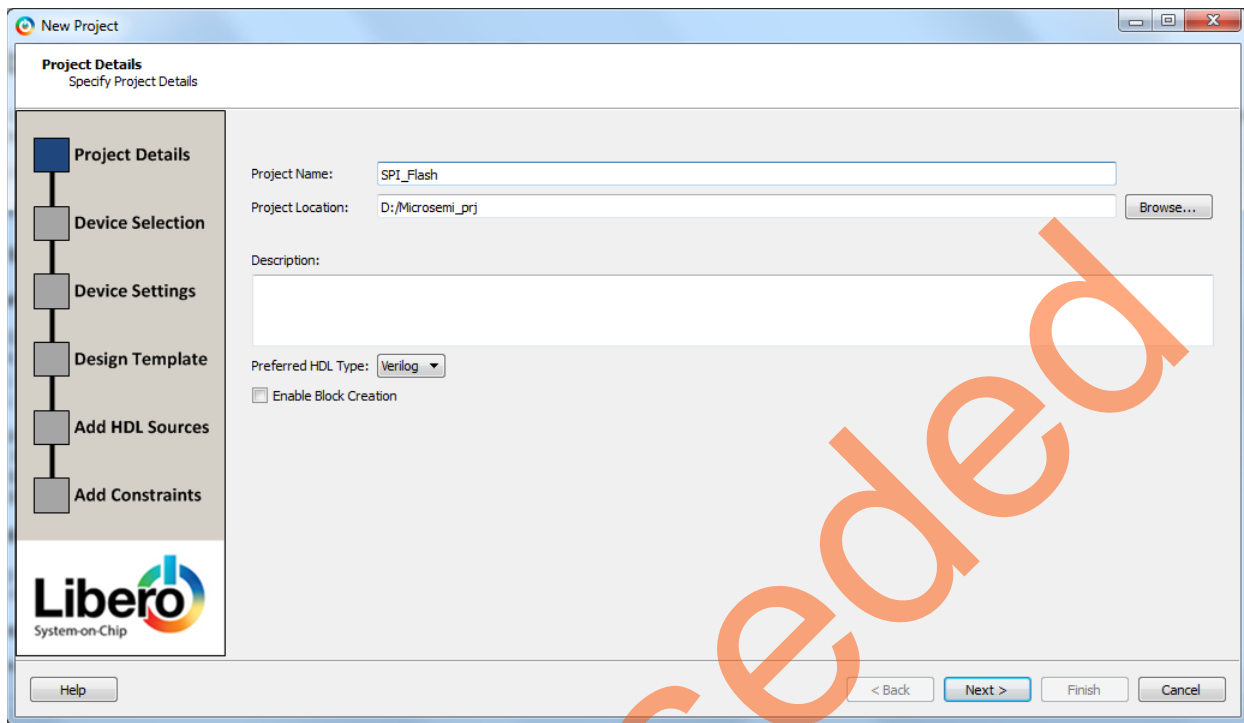

Figure 3 • Project Details Window
3. In the **Project Details** window, enter the information as displayed in Figure 3.